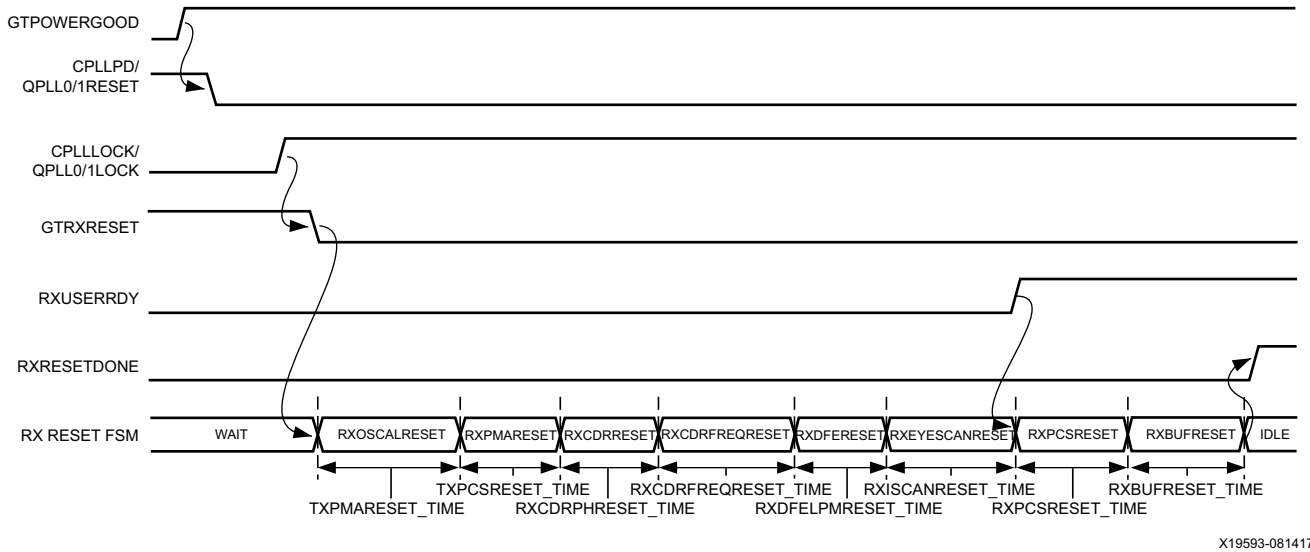

Figure 2-26: GTY Receiver after Configuration
3. Assert CPLLRESET or QPLL0/1RESET and GTRXRESET following the reset sequence described in Figure 2-26.
**RECOMMENDED:** Use the associated PLLLOCK from either the CPLL or QPLL to release GTRXRESET from High to Low as shown in Figure 2-26. The RX reset state machine waits when GTRXRESET is High and starts the reset sequence until GTRXRESET is released Low.